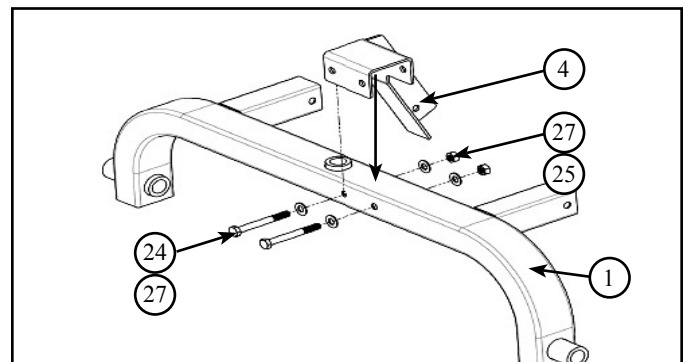

Figure 3.4 - Gas Spring Bracket
1. Slide the gas spring bracket (4) over the top of the axle frame (1), align with bolt holes in the axle frame. Refer to Figure 3.4